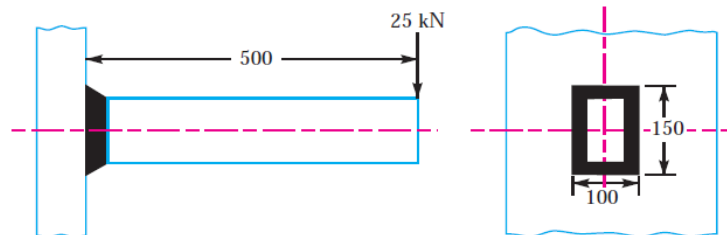

Figure 6
- Q7.** A rectangular cross-section bar is welded to a support by means of fillet welds as shown in Fig. 6. Determine the size of the welds, if the permissible shear stress in the weld is limited to 75 MPa